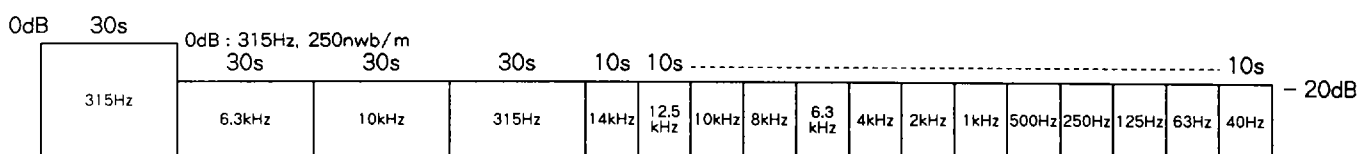

Fig. 7 - 8 STD-331E Test Tape
- Adjustment point and test point are shown Fig.7 - 9 and 7 - 11.